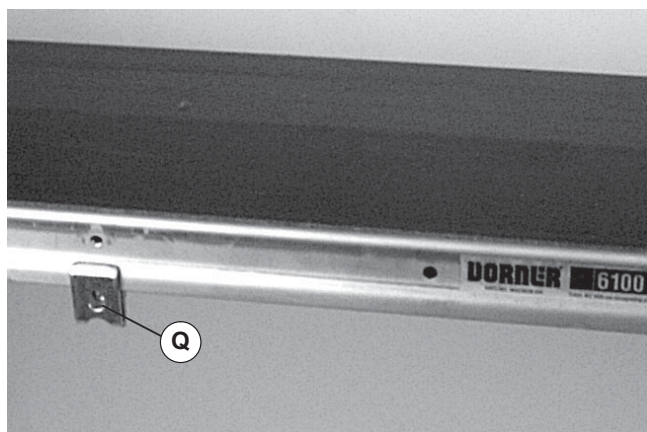

Figure 9
2. Attach mounting clip (Figure 9, item Q) on each side of conveyor.